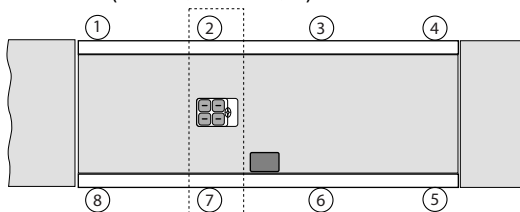

Figure 4-5. Trimming Paired Sections 2:7, 3:6, and 4:5
2. Move the weight cart directly over the next paired cell section (2, 7 in Figure 4-5) and record the indicator reading. Do the same for the last two paired sections (cells 3, 6 and 4, 5).